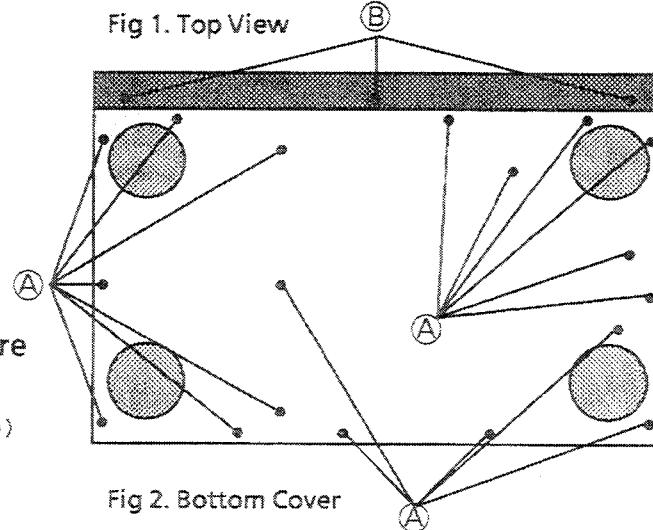

Fig 2. Bottom Cover
1. Remove the 18 screws \odot . (Fig 2)
(3) Removing the Front Panel